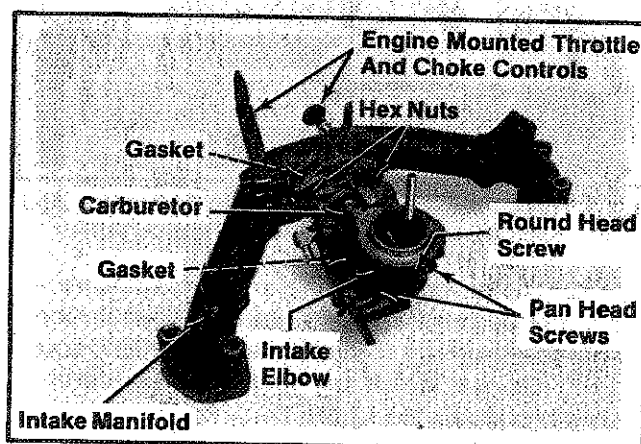

Figure 11-46. Installing Carburetor To Intake Manifold.
1. Install the gasket, intake elbow, plain washer, round head screw, int. tooth lock washers, and pan head screws to carburetor. Refer to Figure 11-46.